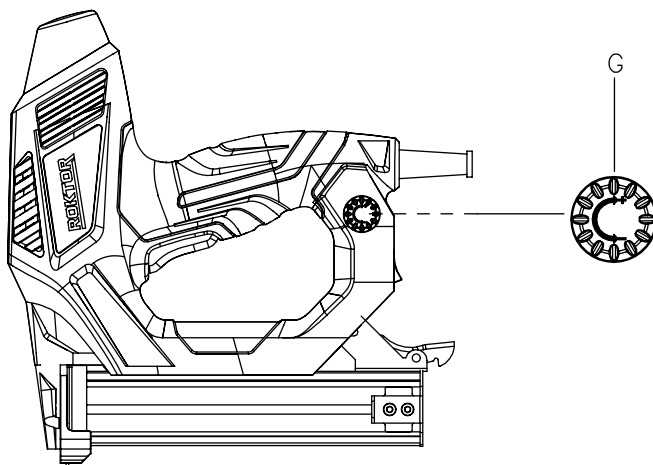

Fig. 3
3. IMPACT CONTROL (SEE FIG. 3)